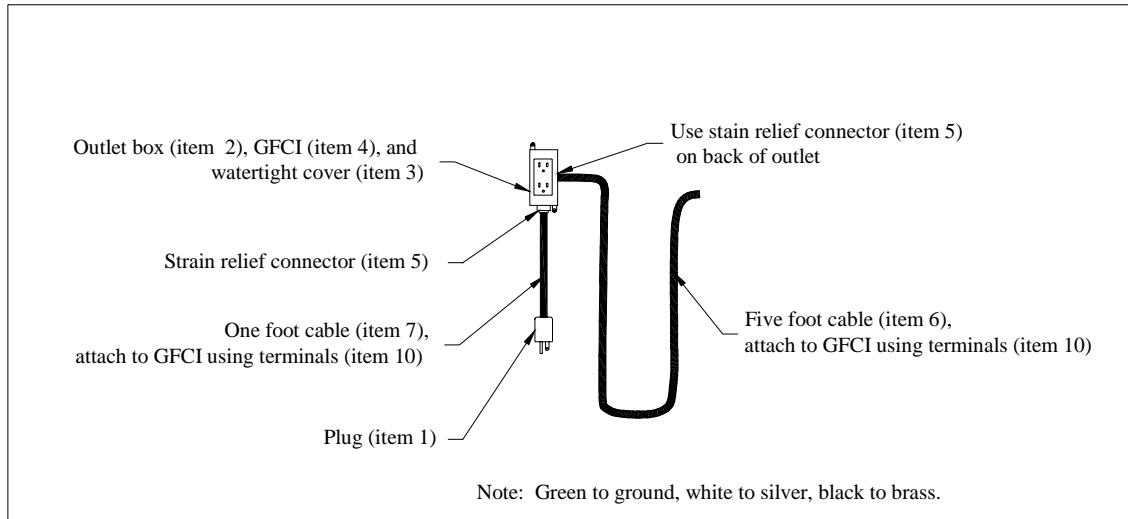

Figure 12. Assembly of feeder cable harness.
1) Attach the plug (item 1) to one end of 1-foot cable (item 7), stripping cable jacket and wire as necessary. Ensure green to ground, black to brass, and white to silver terminals. (Figure 12).